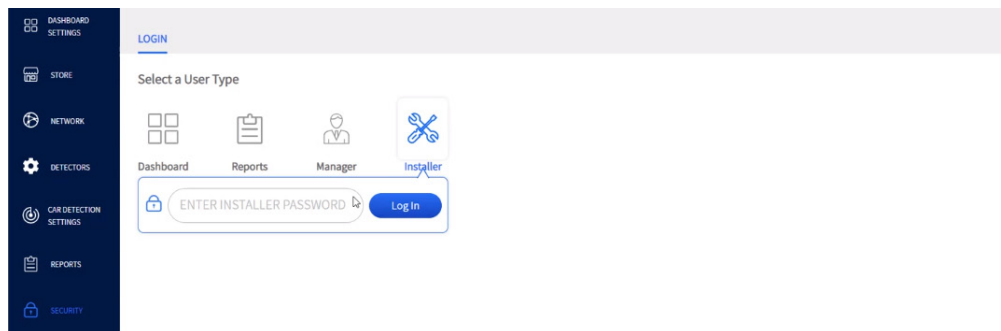

Fig. 7.1
4. Log in as an Installer using the installer password, see Fig. 7.1.